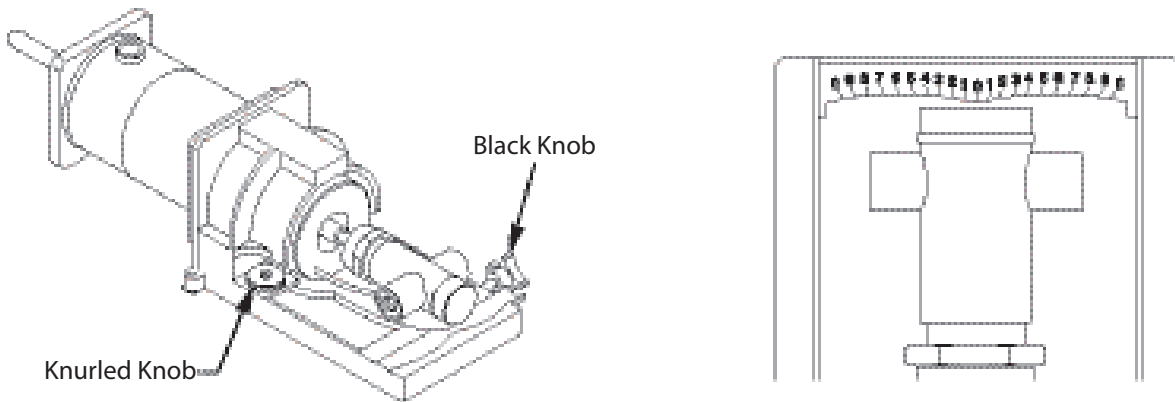

Figure 12 - Adjusting the Flow Scale
2. Loosen the pump pointer locking plate by loosening the two round knurled knobs, one on each side of the locking plate. Loosen only enough to move the pointer. The pointer should be moved against a slight pressure. Reference Figure 12 on page 16.
3. Turn the black knob on the side of the pump to increase or decrease the flow setting. The flow scale is an arbitrary scale and is marked from 0-10(zero to ten), which represents 0-100% of flow rate. Reference Figure 12 on page 16.
Lubricate and service the engine according to the engine manual. We recommend the use of a high quality, SAE 30W detergent oil classified "for service SF, SG, SH" (such as Briggs & Stratton(r) 100005 or 100028) when operating at temperatures above 40 F. Below 40, SAE 10W30 or 5W30 oil is acceptable. Reference Figure 12.